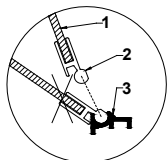

Fig.12 Front glass disassembly
- ⚠ During cleaning the inside of the device do not leave the front glass freely lifted in the aluminium profile. This may cause the damage of the glass and is not covered by warranty. Please remove the glass with profile for the time of cleaning Fig.12 (p.18).